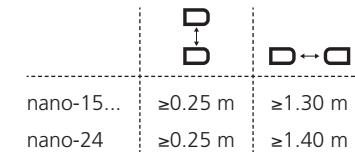

Fig. 2: Minimum mounting distances
- ➔ The assembly distances shown in Fig. 2 for two or more sensors should not be fallen below in order to avoid mutual interference.